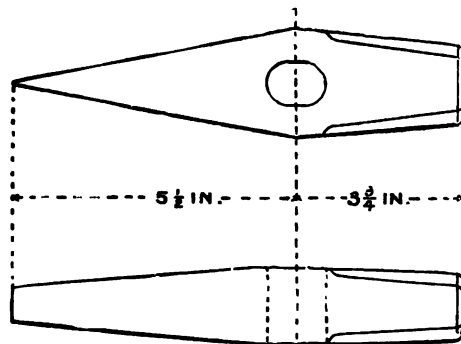

FIG. 12.—CHISEL.—Weight 4 lbs.
**Chisels.** (Fig. 12) are made of 1 1-2 in. square cast steel 6 1-2 in. long. Eye is punched in center and then one end tapered out for a cutting edge, the sides of which